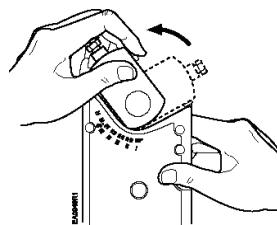

Figure 5
- Hold down the **PUSH** button and rotate the shaft adapter to the left until it stops. See Figure 5.